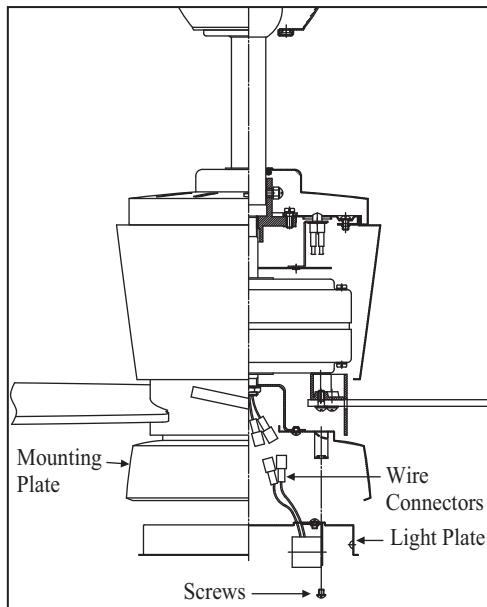

Figure 17
3. Place the key holes on the light plate over the 2 screws previously loosened, turn the light plate until it locks in place at the narrow section of the key holes. Secure by tightening the 2 screws previously loosened and the one previously removed. (Fig. 17)